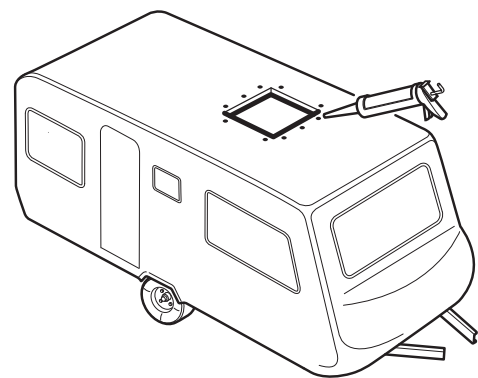

Fig. 8
- ▶ Fill screw holes with car body sealant (Fig. 8).